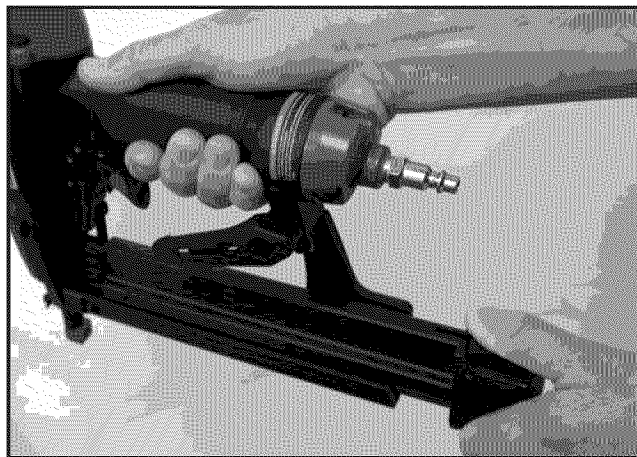

Figure 4—Open Magazine Cover
- Depress the magazine cover release latch and slide magazine cover open. (See Figure 4)